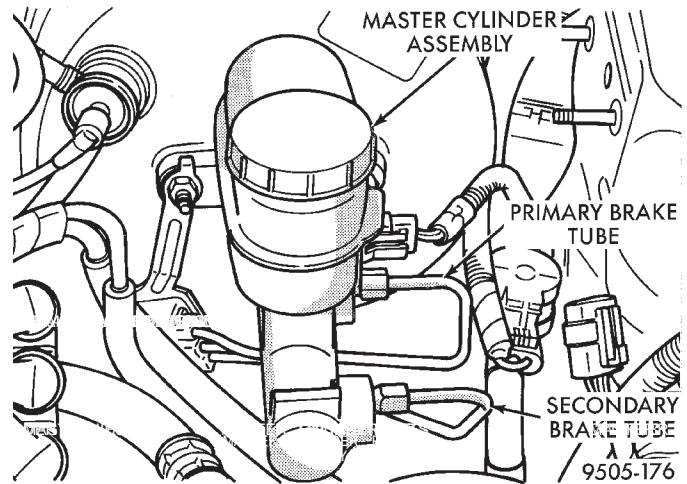
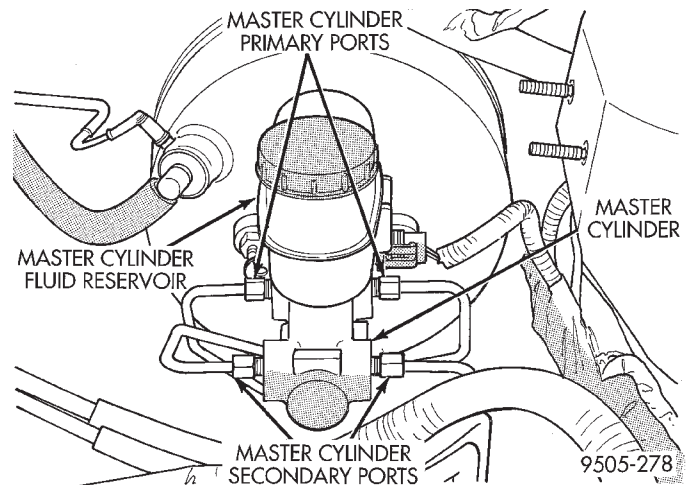

Fig. 108 Primary And Secondary Brake Tubes With Antilock Brakes
Fig. 109 Primary And Secondary Brake Tubes Without Antilock Brakes
(9) Remove the primary and secondary brake tubes (Fig. 108) or (Fig. 109) from the master cylinder.
(11) Install the primary and secondary brake tubes (Fig. 108) in the outlet ports of the master cylinder. Tighten the tube nuts to a torque of 17 N·m (145 in. lbs.).